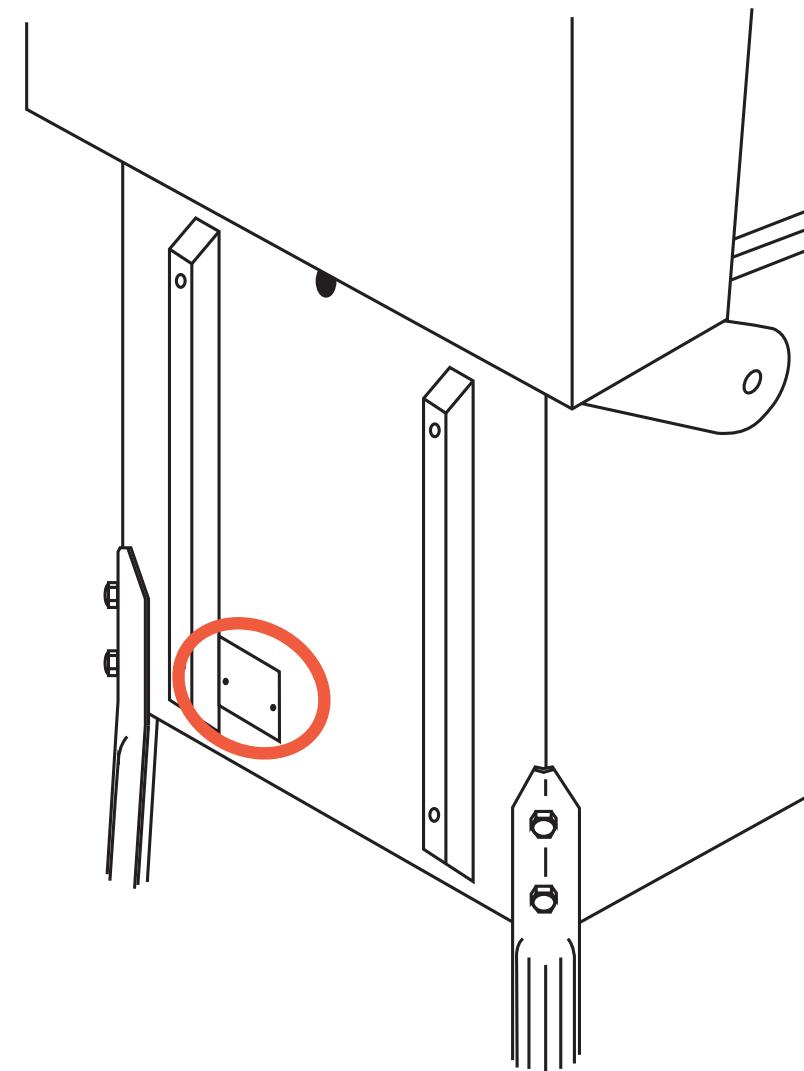

Figure A16. Line cord cover location.
17) Locate the power cord in the loose parts. Remove the line cord cover plate from the rear of the lower cabinet (figure A16). Plug the female end of the power cord into the exposed receptacle, inside of the back of the machine. Replace the line cord cover plate and plug the other end of the power cord into a grounded wall outlet. **DO NOT CUT THE GROUND LUG OFF OF THE POWER CORD!**